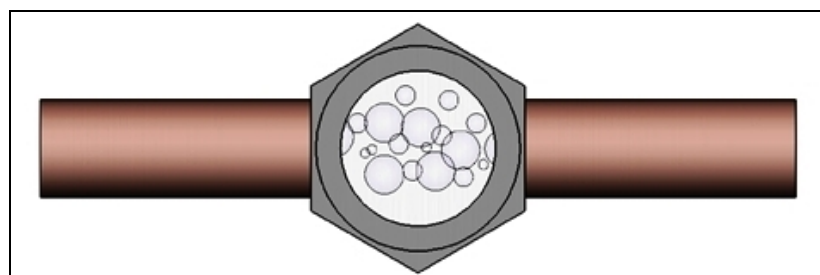

Figure 31. Many Bubbles-Inline Sight Glass
- B. **INLINE** sight glass has **MANY BUBBLES**: This is illustrated in Figure 31. Wait 10 minutes and observe the sight glass again. If many bubbles are still present, repeat the 10 minute wait cycle until the bubbles become few, or you have waited 2 hours. After a 2 hour wait, and many bubbles still exist in the sight glass, the process is done. No further adjustment in cool mode is required, and the system is operational.